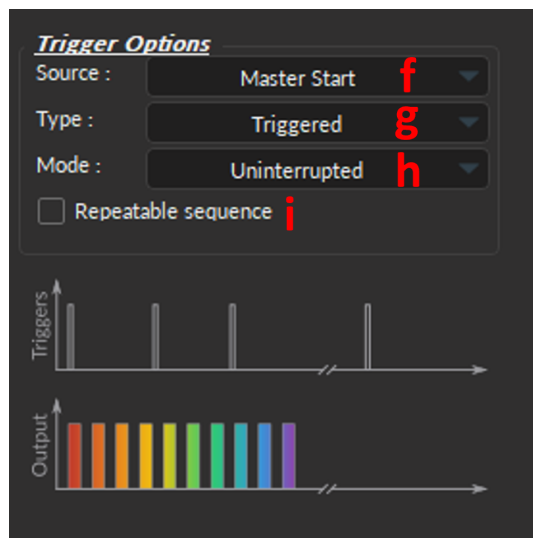
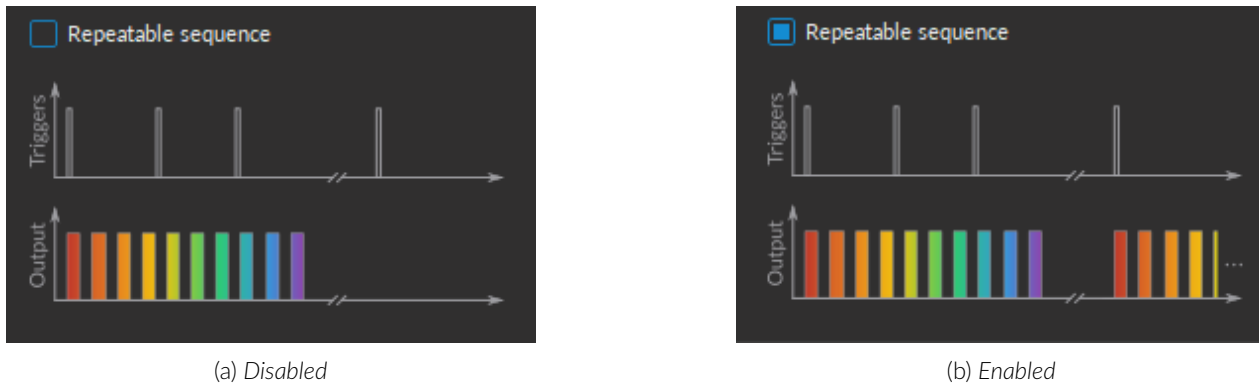

Figure 10.19: BFMC, Trigger Options
Figure 10.21: Repeating sequence
2. The **Trigger Options** (Fig. 10.19)
- f) The **Source** trigger option (Fig. 10.19, f) specifies the element that will set off the digital output. Two options are available:
- g) The **Type** (Fig. 10.19, g) defines how the trigger activates a sequence. This includes input sequences, which can be triggered/gated by an outside source.
- h) The **Mode** (Fig. 10.19, h) defines how the sequence will run if a second TTL pulse is received before the sequence ends. This includes input sequences, which can be triggered/gated by an outside source. Four options are available:
- i) The **Repeatable sequence** checkbox (Fig. 10.19, i), when enabled, will run the sequence when additional TTL pulses are received (Fig. 10.21).